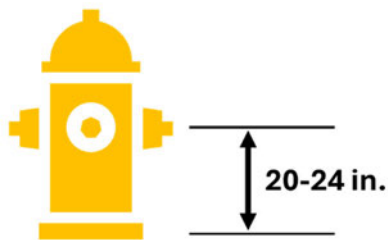

Figure 6-2 Hydrant Height Requirement
- Use a measuring tape to ensure the centerline of the 4 ½" nozzle is 20-24 inches above the finished grade to comply with the State of Hawaii Water System Standards (*Figure 6-2*). If adjustment is needed, schedule the work.